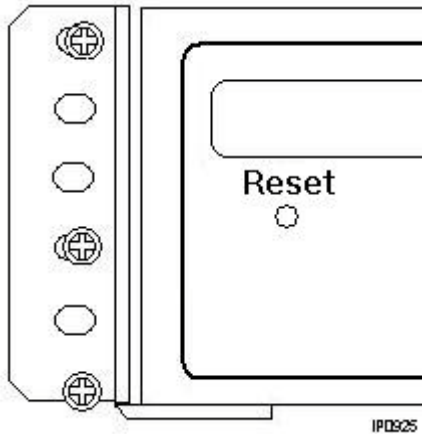

Figure 19: MXe Rack-mount Screw Placement (2-piece Bracket Installation)
- loosely enough that the frame mounting bracket can be dropped into position, resting on the screw thread (see Figure 19).